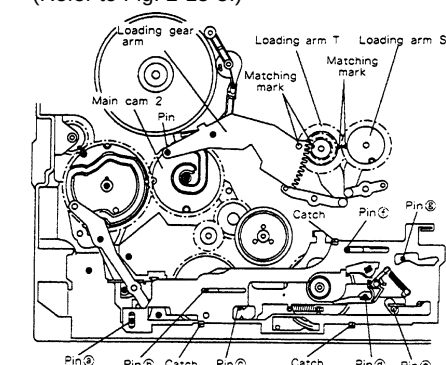
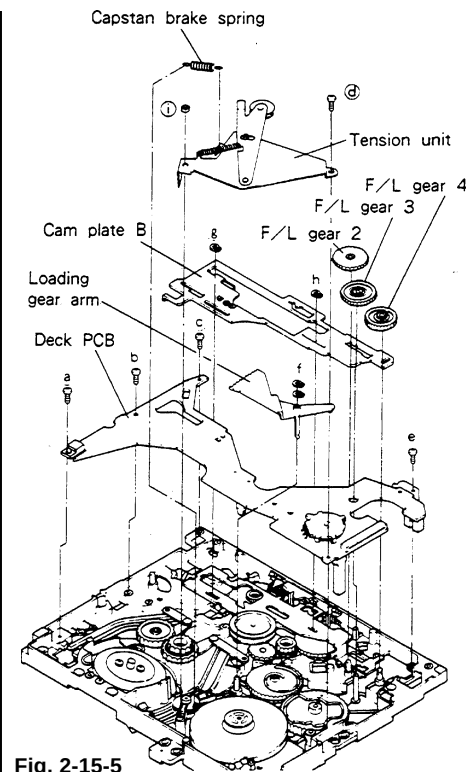

Fig. 2-15-4
Fig. 2-15-5
- J. Install the cam plate B so that the plate shall match the pins (a) to (g) as shown in Fig. 2-15-4, especially the pin (e), and secure the plate with three clamps, cut washer (pin b) and grip ring (pin f).
- K. Line the matching mark of the loading arm T with that of the loading gear arm as shown in Fig. 2-15-4, and assemble the loading gear arm to the shaft so that the pin of the loading gear arm shall enter the groove of the main cam 2. Secure the arm with two grip rings (f). (Refer to Fig. 2-15-5.)
- L. Assemble the F/L gear 2, 3, and 4 to the shafts as shown in Fig. 2-15-5.
- P. Fasten the capstan brake spring to the tension unit and the capstan brake spring. (Refer to Fig. 2-15-5.)